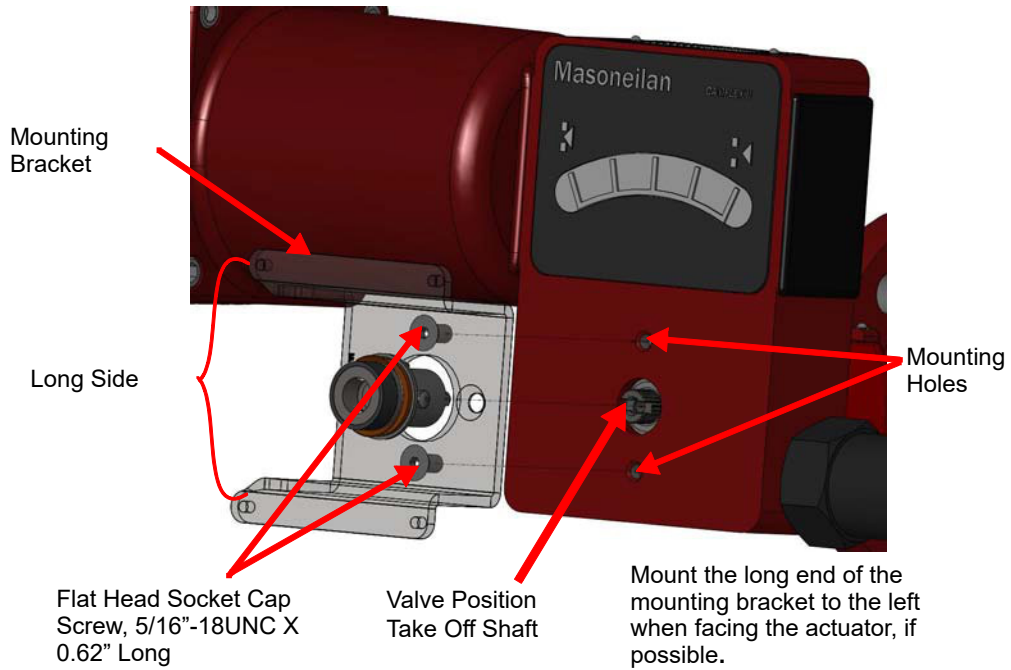

Figure 14 - Rotary Mounting Bracket to Valve Actuator
1. Attach the mounting bracket to actuator (Figure 14).